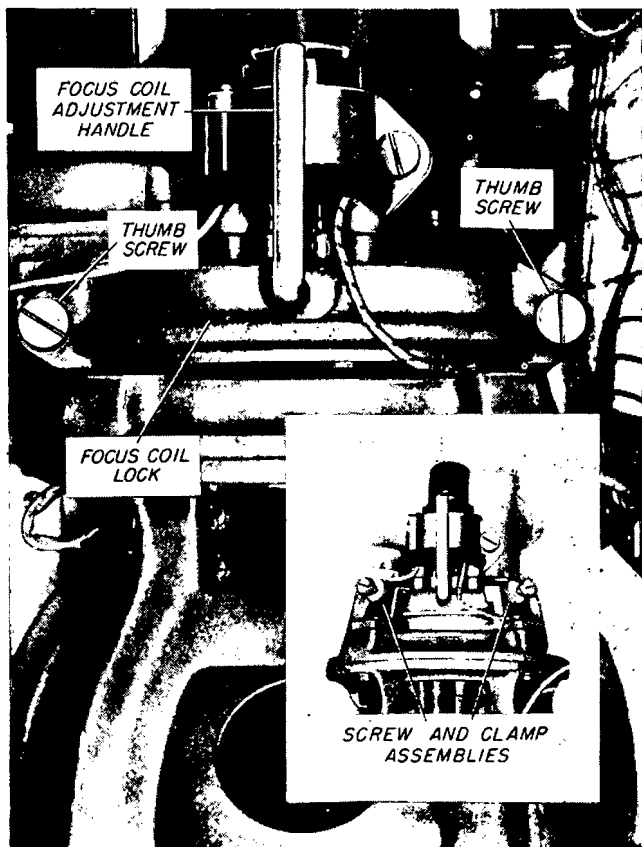

Figure 7-113. Focus Coil Adjustment in PPI Indicator
(1) Loosen the clamp locks and clamps on the focus coil and grasp the handle. The clamp and focus coil adjustment are shown in Fig. 7-113. Rotate the coil until the start of the sweep line is in the center of the tube. The center is located at the end of the etched bearing line over the face of the tube. Tighten the clamps and locks. It may be necessary to readjust the focus coil after all the other tests have been made.